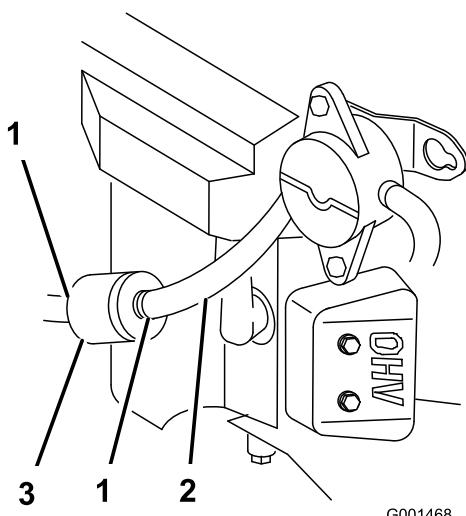

Figure 34
4. Squeeze the ends of the hose clamps together and slide them away from the filter (Figure 34).